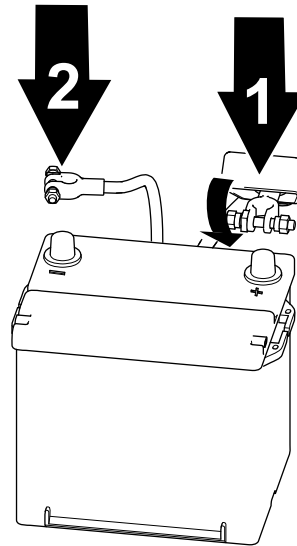

Figure 61
1. Connect the positive cable to the battery and tighten the battery-clamp nut (Figure 61).
2. Connect the negative cable to the battery and tighten the battery-clamp nut (Figure 61).